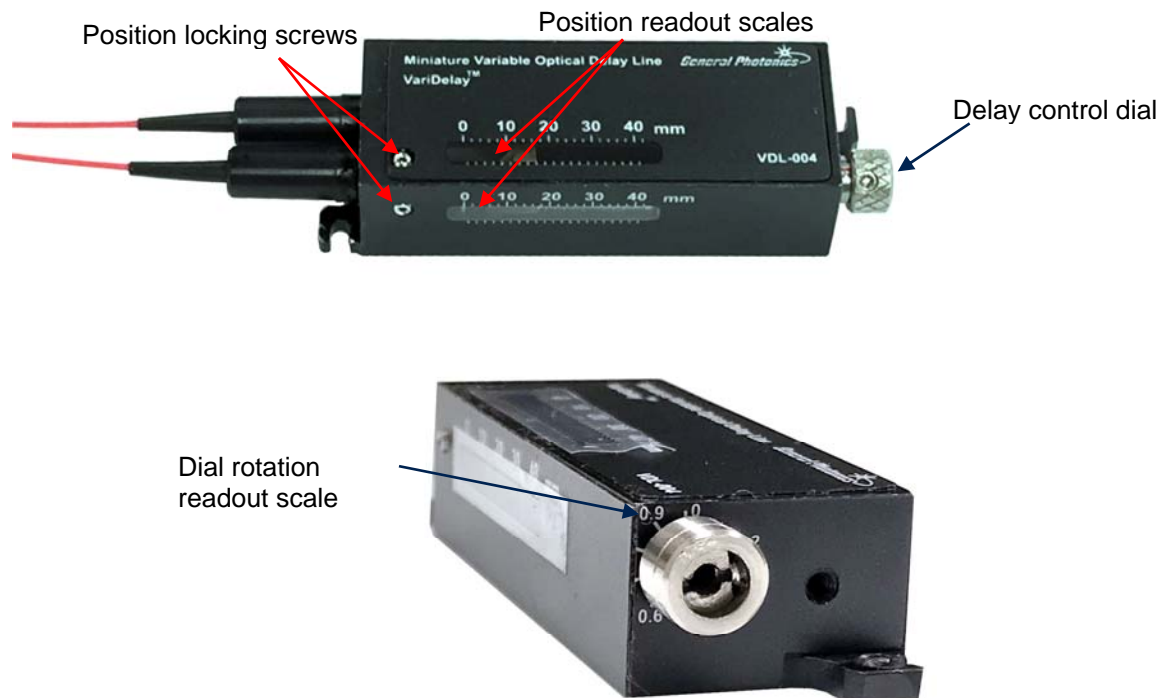

Figure 3 Delay controls and position readouts
Once the delay is set, the position can be locked by tightening one or both of the two 2-56 set screws on the top and side of the device (see Figure 3).
4. The position can be locked by tightening one or both of the position locking set screws (see Figure 3).